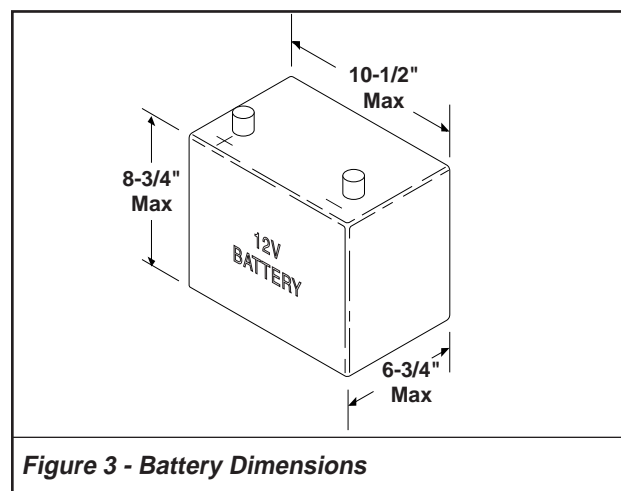

Figure 3 - Battery Dimensions
1. **Electric Start Machines Only:** Place battery in battery box (battery not included). Use a standard 12 volt automotive battery. Select a battery similar to the one in **Figure 3** for proper fit and installation.